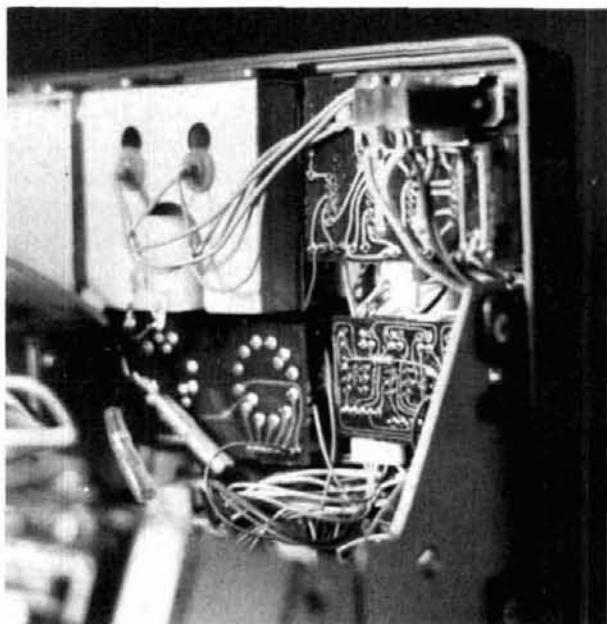
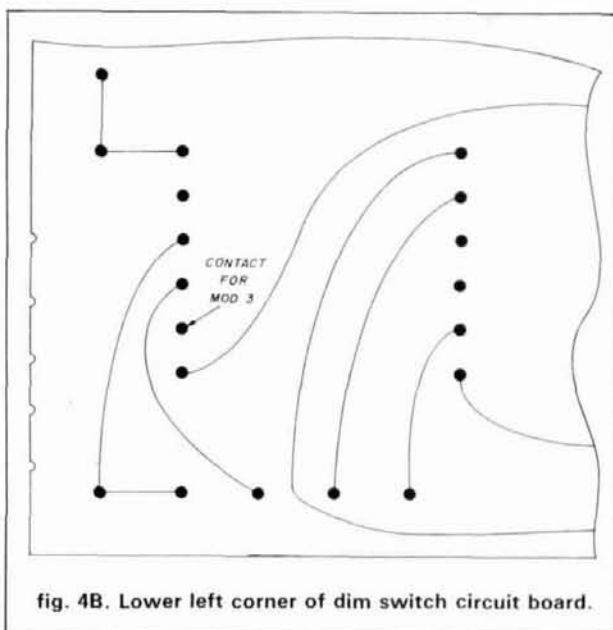

fig. 4A. Dim switch circuit board.
fig. 4B. Lower left corner of dim switch circuit board.
**Mod 3 (scanning)** requires a jumper from pin 3, plug 8 on the digital-unit board to ground through a switch. Use the hairpin method to connect the jumper to the plug. The other end of the jumper connects to the panel light DIM switch, which has an extra contact to ground when it's in the DIM position. (**Figure 4A** shows the location of this contact, with **Figure 4B** showing this in greater detail. Again, check continuity to ground with the switch in the DIM position to verify that you have the correct contact. When you've finished this modification, power up again, load up the memories, select VFO A and depress the DIM switch. Notice that the scanning starts with memory channel 1, scans to 8, and repeats, stopping on each channel for about 2 seconds. To scan VFO B memory channels, you must first initiate scanning in VFO A and then select VFO B. Scanning will not initiate in VFO B. In addition, only 8 channels can be scanned (that is, either VFO A or VFO B).